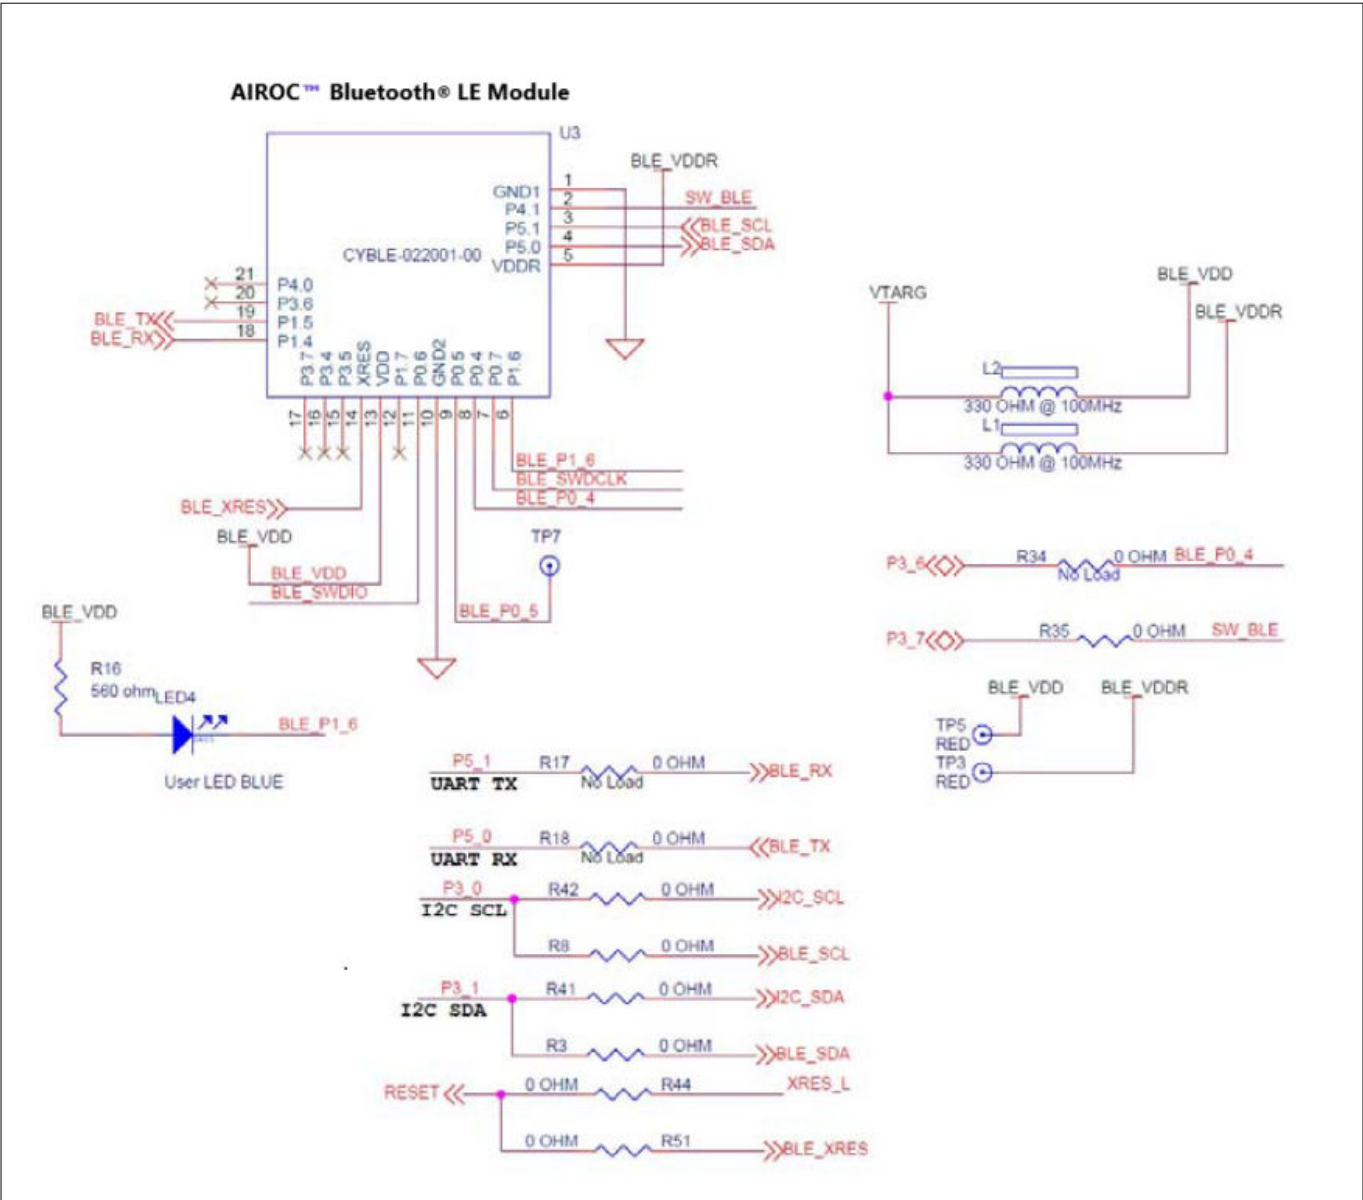

Figure 32 AIROC™ Bluetooth® LE connections
- UART connections to PSOC™ 4100S Plus through zero-ohm resistors R17 and R18 (see Figure 32 and Table 8). Note that R17 and R18 are not loaded by default